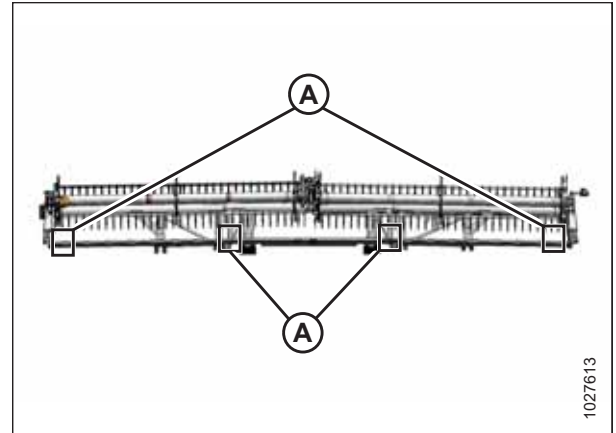

Figure 4.263: FlexDraper® Measurement Locations – Double Reel
- Double-reel headers: Figure 4.263, page 715